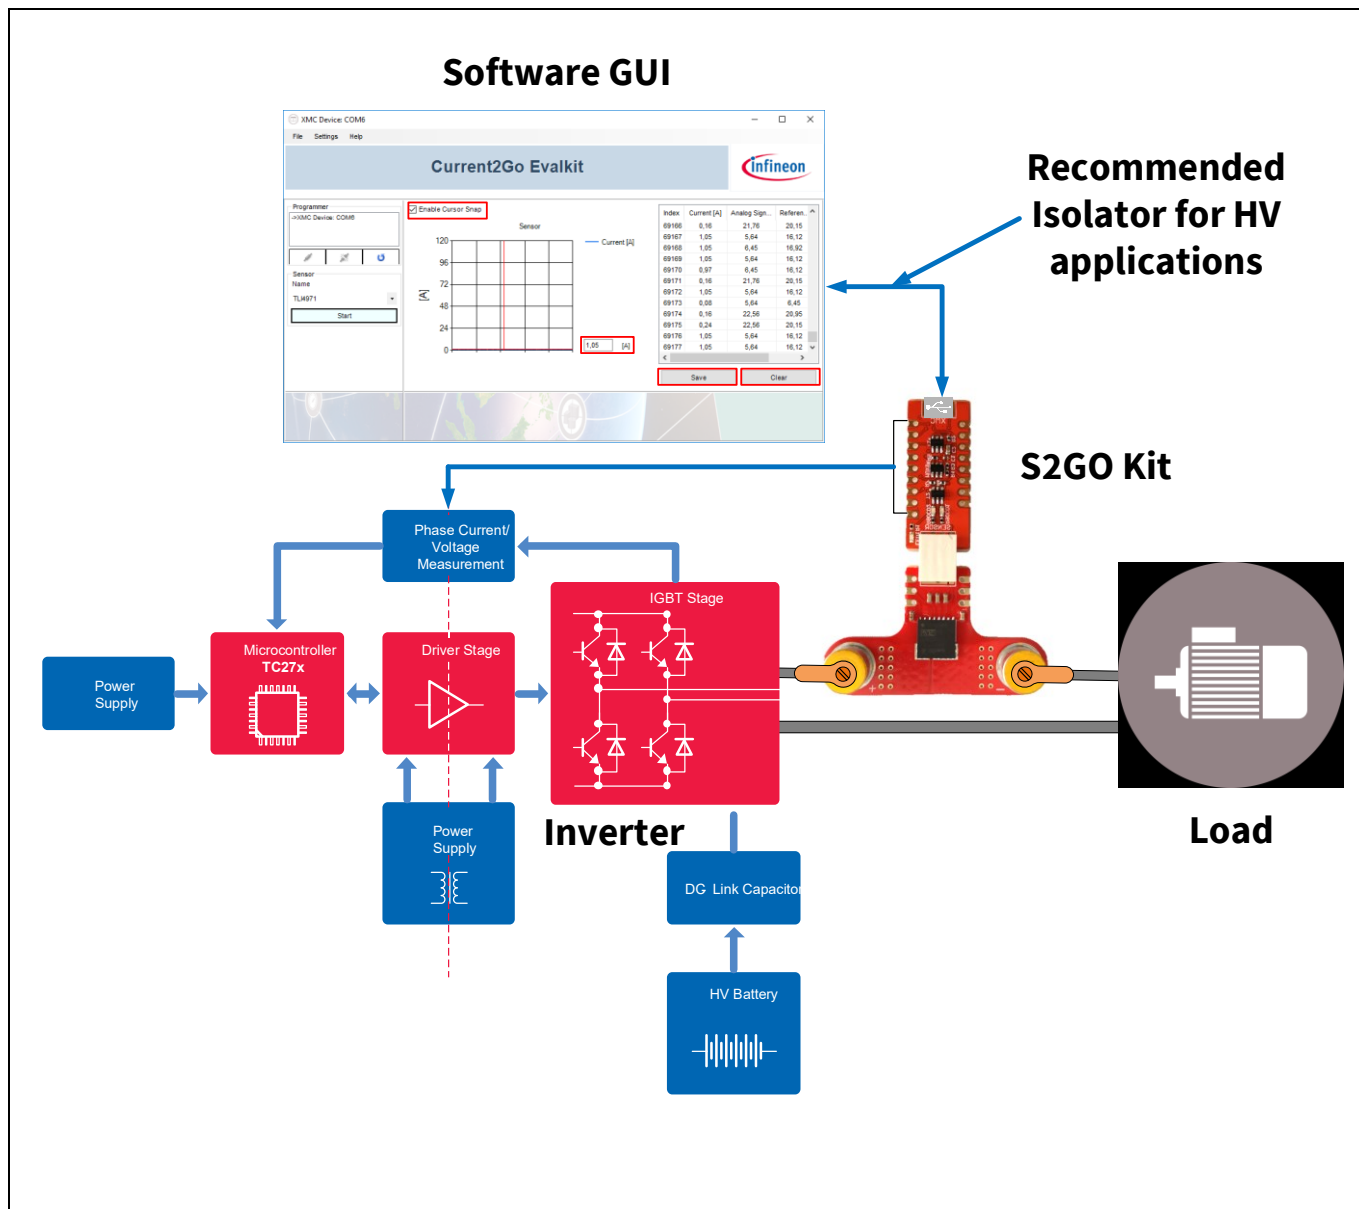

Figure 11 Test Setup Example with MS2Go Kit
- Connect the MS2Go kit via the USB link to your PC (see Figure 11).
Figure 11 shows an example measurement setup on how to connect the MS2Go & S2Go kit via USB connector to a PC or laptop in a single phase inverter for motor drive application. The user can vary the sensor parameters for external field and sensitivity compensation using programmer board and GUI software.
The GUI for MS2Go kit allows the user to interface and communicate with the connected current sensor. Once the test set up is done as shown in Figure 11, the user has to open the GUI software and it will start communicating with the hardware. If the connection is successful then the XMC Device: COM6 window which has shown in the below will display on the monitor.